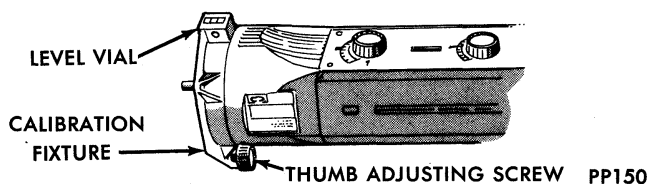

Fig. 4—Calibration Fixture
(1) Turn thumb adjusting screw on each calibration fixture until it is approximately the same distance as the supporting posts (Fig. 4).
(2) Attach calibration fixtures to each unit with level vials on top (Fig. 4).
(5) Rotate thumb adjusting screws on each calibration fixture until level vials on fixtures are centered (Fig. 4).